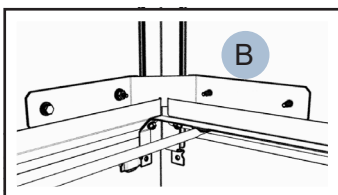

Fig. 5 - Door-lift Bracket (B) Removal
3. Disconnect the door-lift bracket (B) connecting the front door and the wall-side door and discard. To seal the holes, re-install the bolts and lockwashers that held the bracket (see Fig. 5).